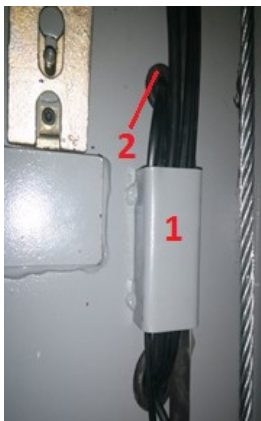

Fig.11a
- Now you can stick all cables coming out of the control-unit inside the column, through the hole above the unit. Now place all cables upwards through the bracket (1, fig.11a), the shortest cable is put through the hole of the safety lock (2, fig.11a) together with another cable which comes from underneath and is also to be connected to the safety lock.